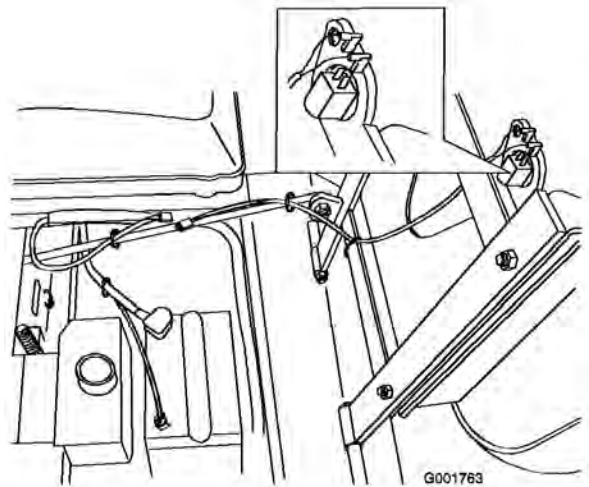

Figure 14
4. If needed, attach the two connectors onto the seat switch (Figure 14).